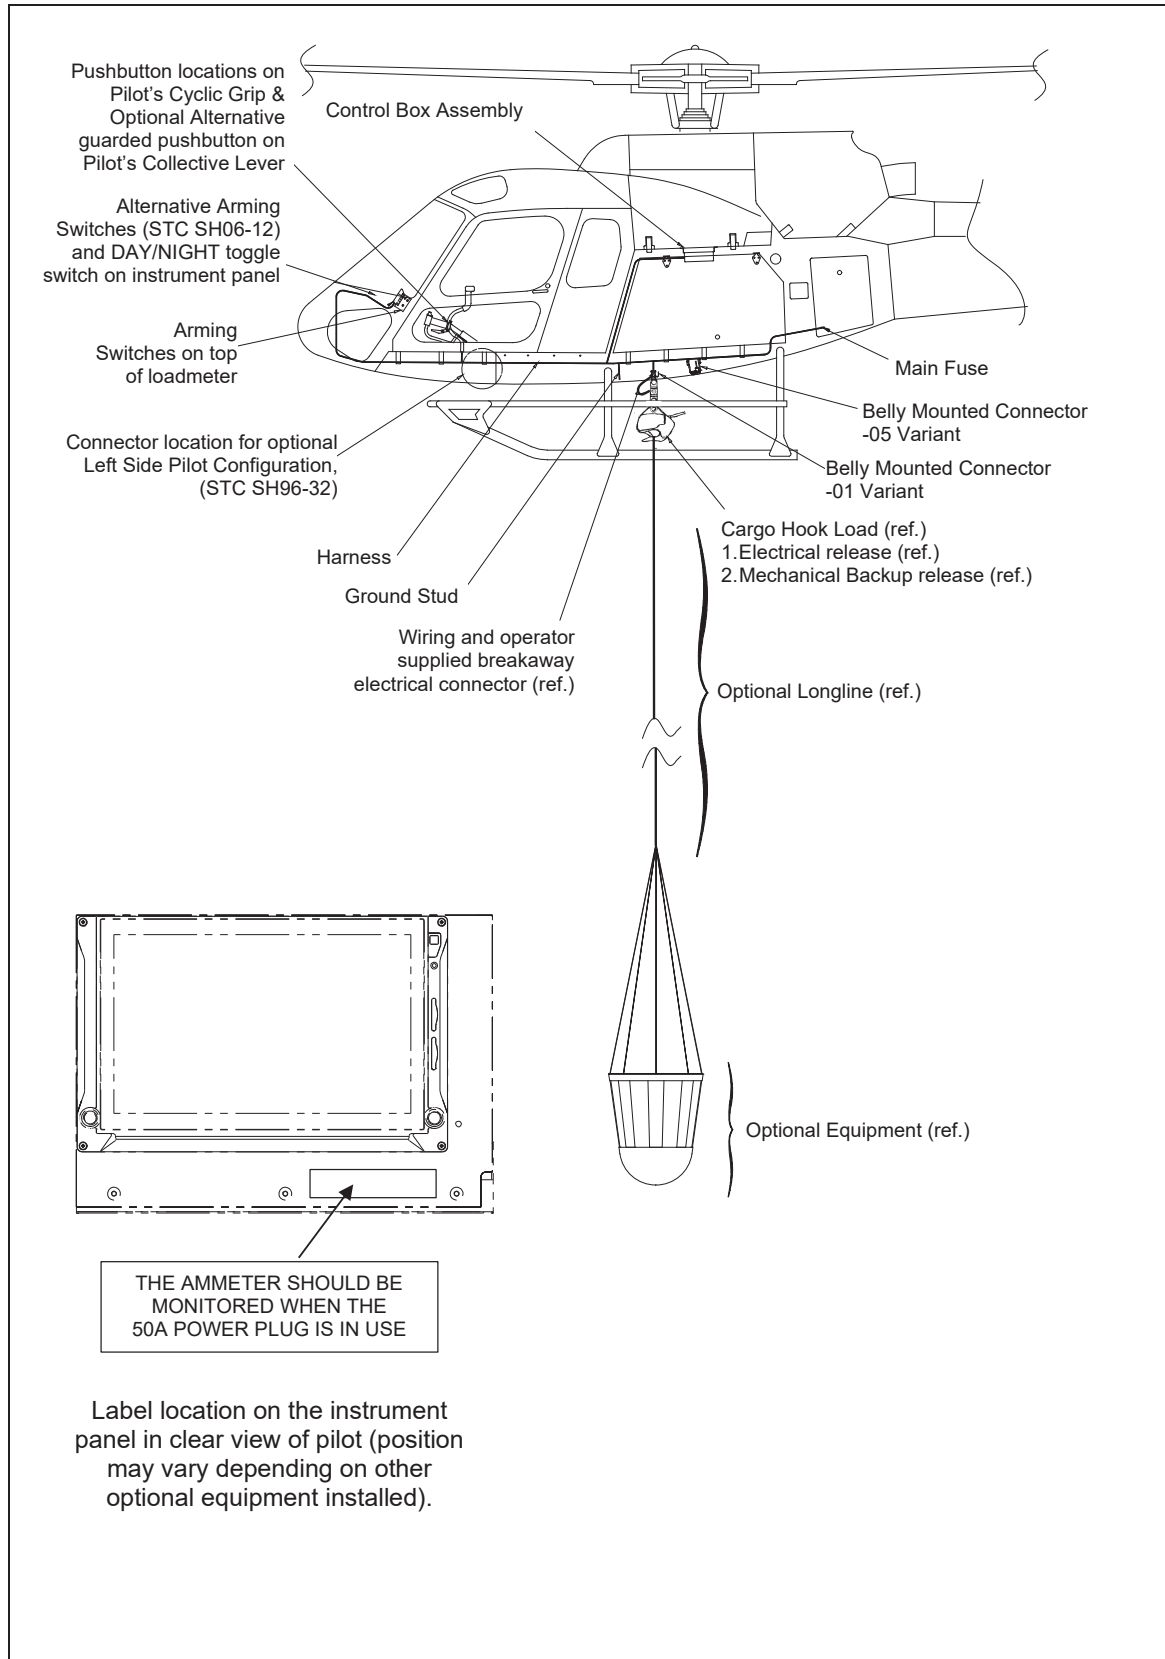

Figure 1 General Layout
- A. The Electrical Power Supply for Optional 50 AMP/Longline/Carousel Systems provides electrical power for optional equipment. Refer to Figure 1 for General Layout.
If the loadmeter indicator has been relocated to the floor window area (STC SH06-12), the longline arming switches are located on the instrument panel (position may vary depending on other optional equipment installed). Refer to Figure 1.